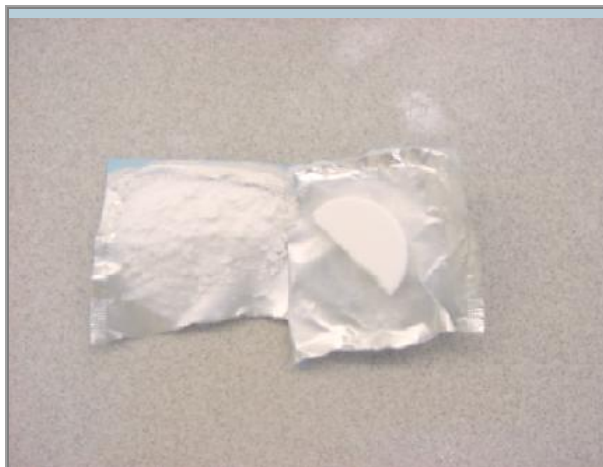

Figure 1. Antacid tablet.
1. Remove antacid tablets from packaging and break them in half (see Figure 1).